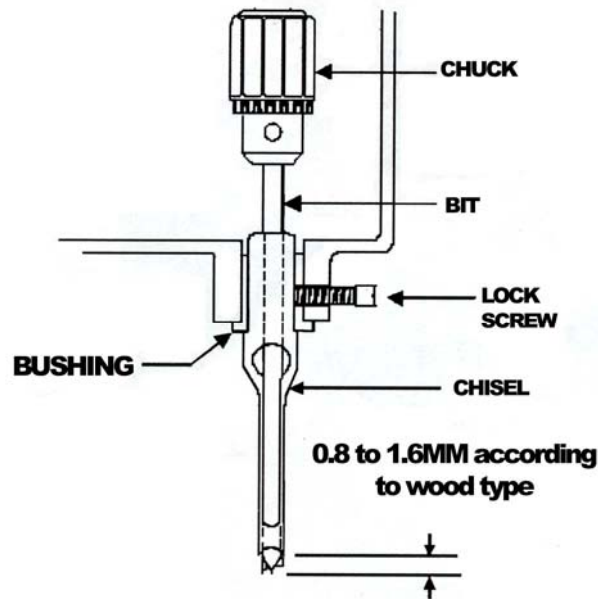

FIGURE 2
1. Loosen lock screw, as shown in Figure 2